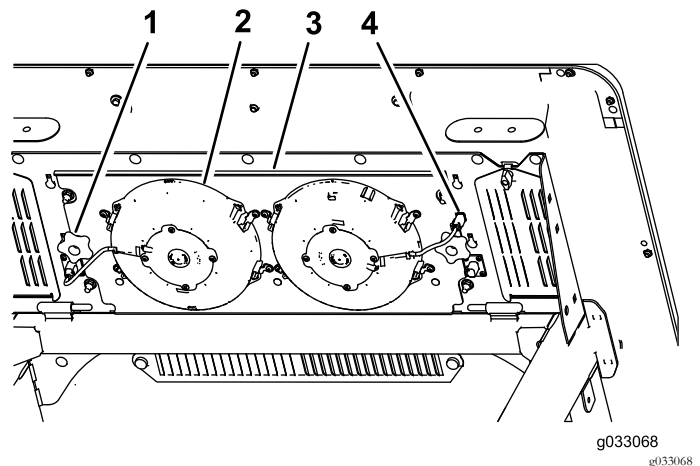

Figure 58
2. Tab (4)
3. Disconnect the plug and cord for the fans from the outlet (Figure 58).
4. Remove the 2 knobs that secure the fan-panel assembly and fans to the underside of the cab top (Figure 58) and remove the assembly.